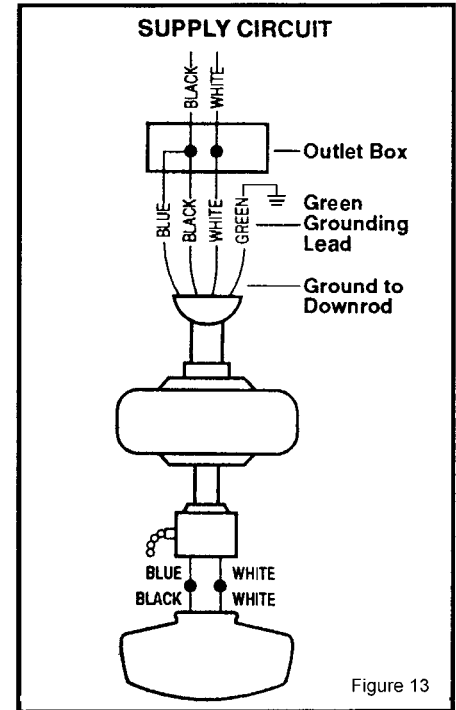

Figure 13
Step 2 Connect the fan light supply (blue) wire and the fan supply (black) wire to the black household supply wire as shown in Figure 13.